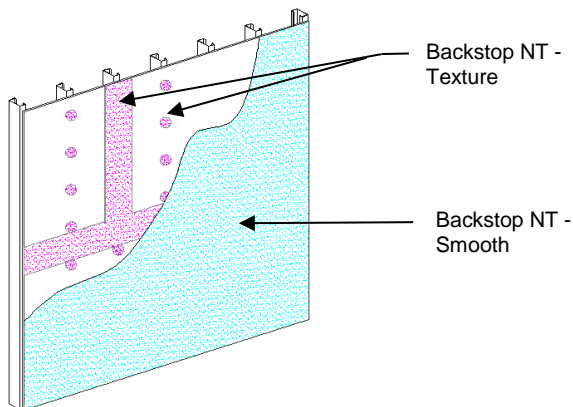

Figure 4
- a. General: Dryvit Backstop NT - Smooth can be applied using a roller or sprayed and back-rolled over the acceptable sheathing substrates. **NOTE: OSB sheathing requires that joints and fasteners be treated with Backstop NT - Texture. A minimum of two (2) coats of Backstop NT - Smooth or Backstop NT - Spray are required for the field of the wall. Backstop NT - Texture is not recommended for application in the field of the board.**
- 2) Backstop NT - Smooth material should be applied in a uniform, continuous film at the recommended coverage rate – Figure 4. **NOTE: Sheathing substrates with a surface texture or high porosity will require additional material.**